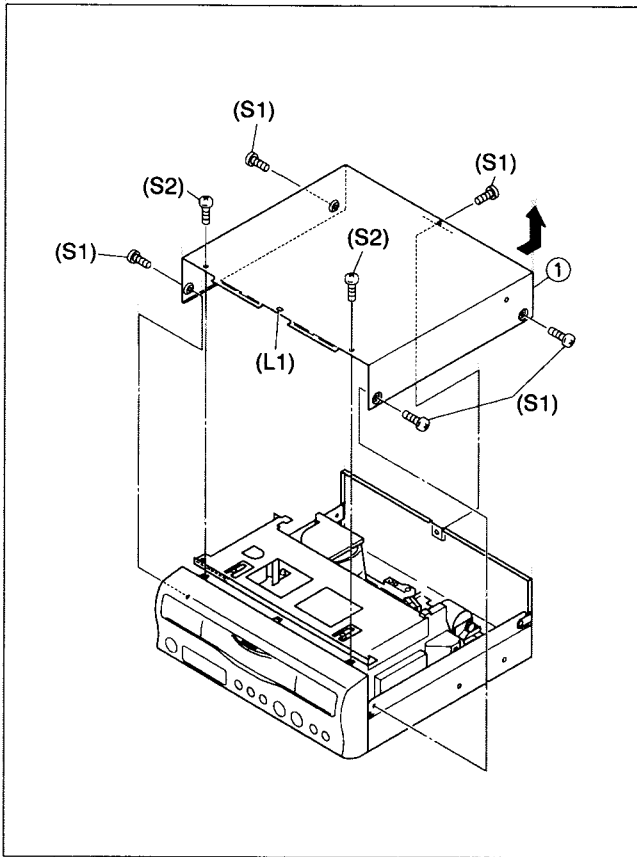

Fig. D1
- (1) Remove the Top cover. (See Fig. D1 of 1.3 DISASSEMBLY/ASSEMBLY METHOD.)